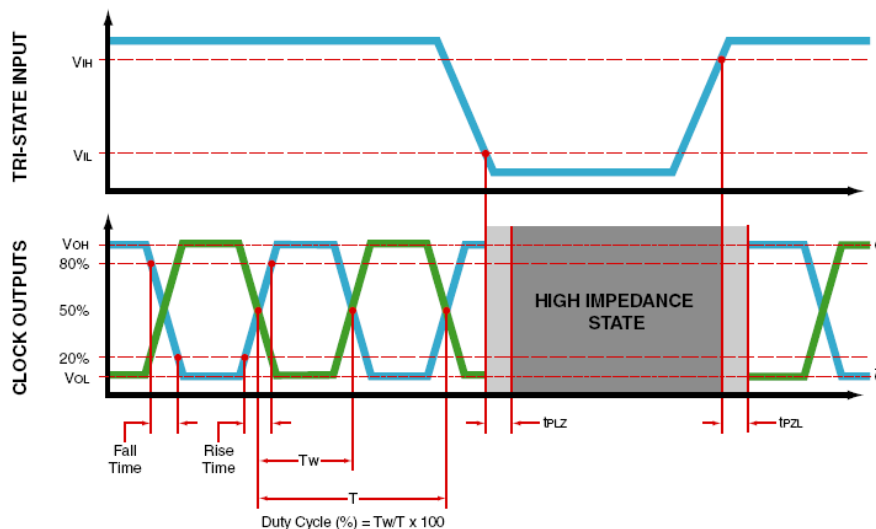

Figure 1: Tri-State Output Timing Diagram
If the Standby (ST) option is selected, all active circuitry within the oscillator is shut down when the voltage at the control pad (pad 1) is set to a logic low state. In this condition (Figure 1), the output signal is three-stated (tri-state). The oscillator output gate becomes high impedance and the oscillator input current on the power supply line is negligible. The maximum Standby (ST) current is listed on the applicable Ecliptek datasheet. . If the voltage at the control pad is set to no connect or a logic high state, the output is enabled (clocking).
If the Output Enable (OE) option is selected, only the output circuitry within the oscillator is shut down when the voltage at the control pad (pad 1) is set to a logic low state. In this condition (Figure 1), the output signal is three-stated (tri-state). The oscillator output gate becomes high impedance and the oscillator input current on the power supply line is only slightly decreased from normal operating current. The maximum Output Enable (OE) current is specified on the applicable Ecliptek datasheet. . If the voltage at the control pad is set to no connect or a logic high state, the output is enabled (clocking).